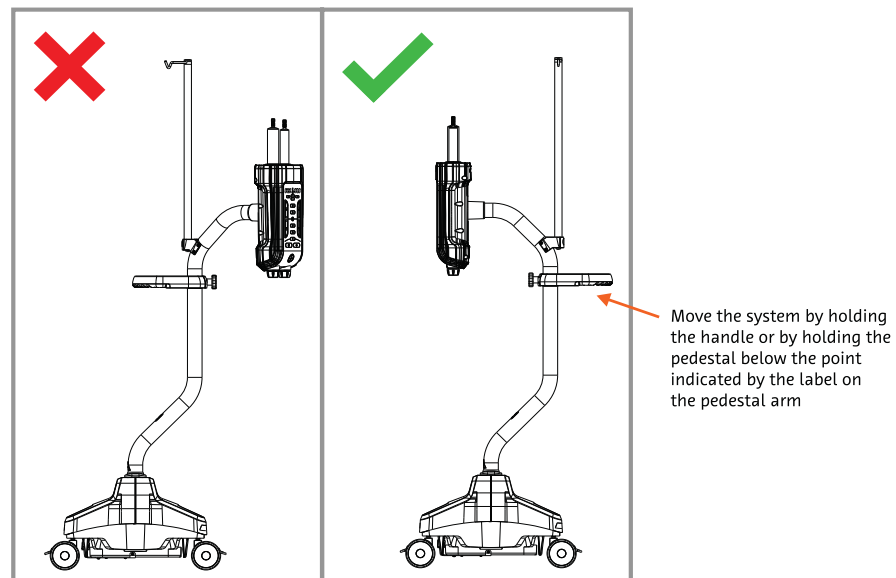

Figure 4 - 3: Moving the System
2. Rotate the injector head column so the injector head sits above the base as shown in Figure 4 - 3.